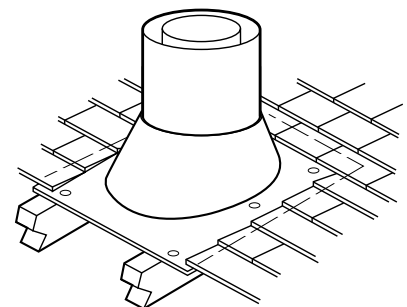

Figure 28
Step 7. Secure flashing by attaching along the perimeter into roof using 8d nails or equivalent. If shingled roof, slide upper end and sides of roof flashing under shingles (trim if necessary), seal the top and both sides of the flashing to the roof with roof caulking. Cover nail heads with roof caulking (*Figure 28*).